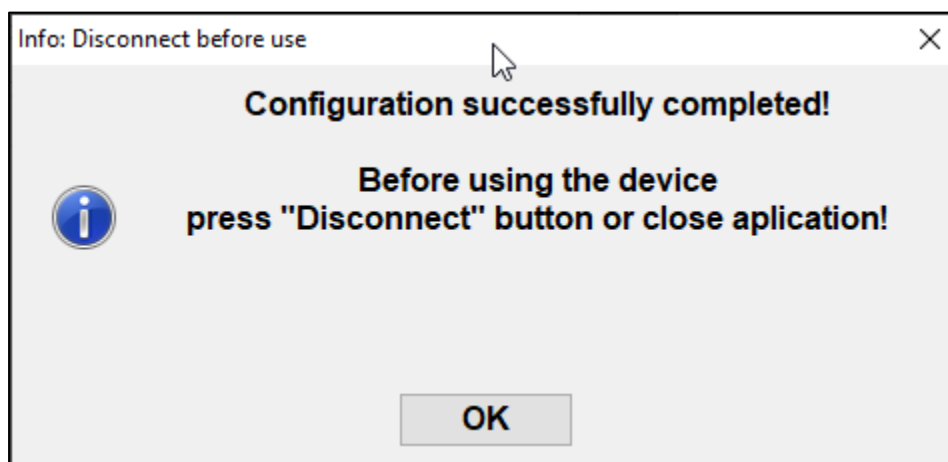

Fig. 16 Message informing about the successful completion of the ALEX BT interface configuration.
4. After correct configuration, a confirmation message will be displayed (Fig. 16), informing about the necessity to disconnect the device with the "Disconnect" button or to close the configuration application, before using the ALEX BT interface with another application.